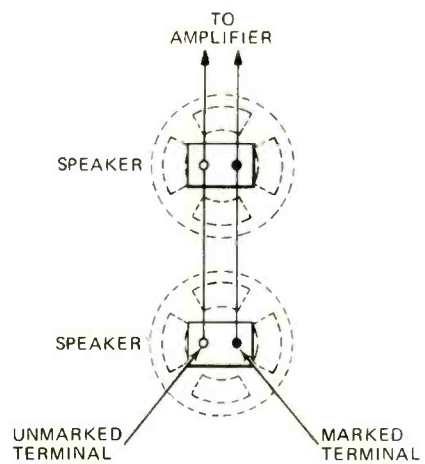
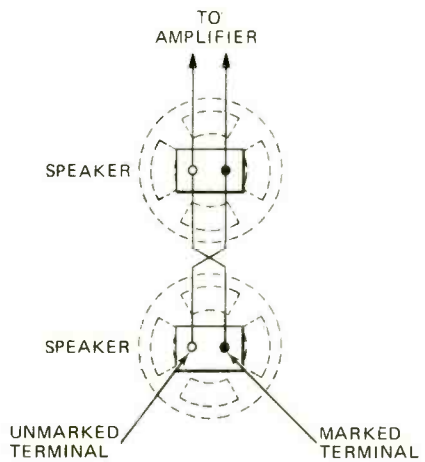

FIG. 5—PA SPEAKERS facing same way are phased with like terminals wired together.
FIG. 6—SPEAKERS FACING EACH OTHER have line transposed for in-phase operation.
7. Connect the marked and unmarked terminals according to the manner of electrical arrangement shown in Fig. 5 if the speakers are facing in the same direction. If the speakers face each other, make connections as shown in Fig. 6.